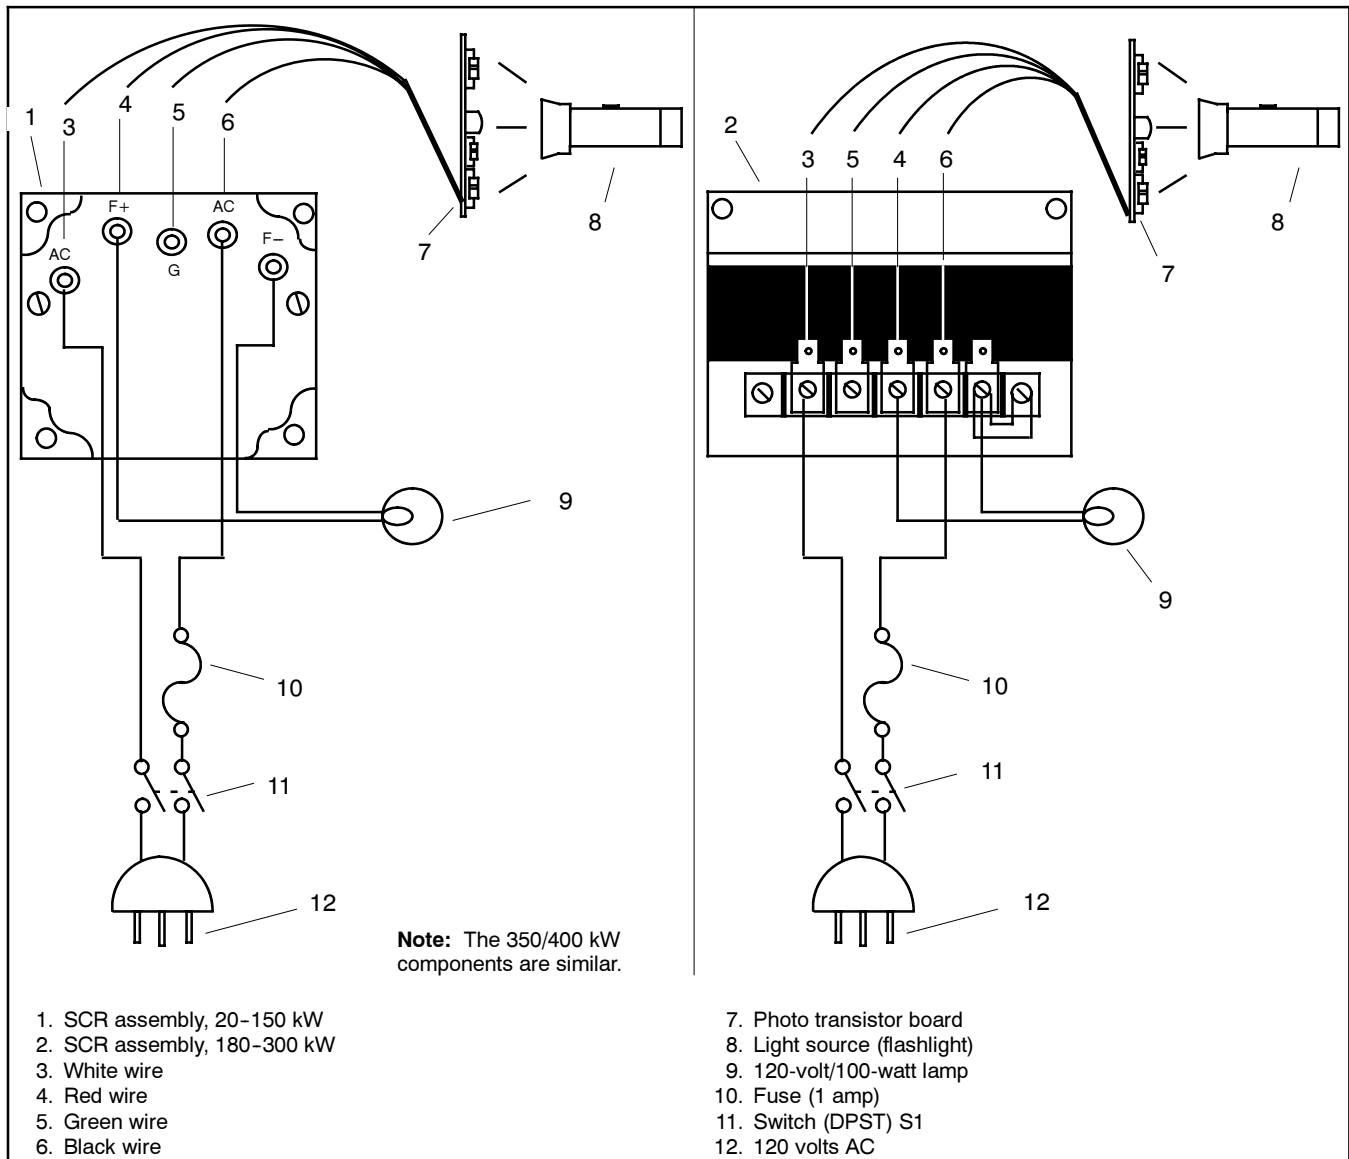

Figure 3-7 SCR Assembly and Photo Transistor Board
1. Connect components as illustrated in Figure 3-7. If testing the photo transistor board, SCR assembly must be *known-functional*. If testing the SCR assembly, the photo transistor board must be *known-functional*.